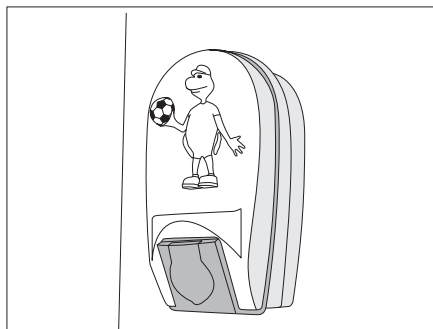

Fig. 181 Children's bed lamp
- Press the light covering of the children's bed lamp (Bild 181) lightly together and remove it.